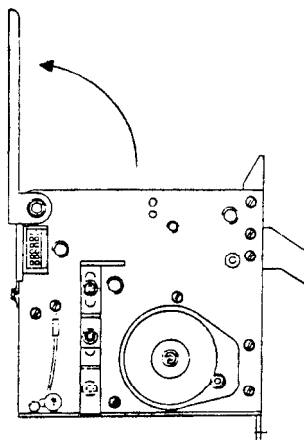
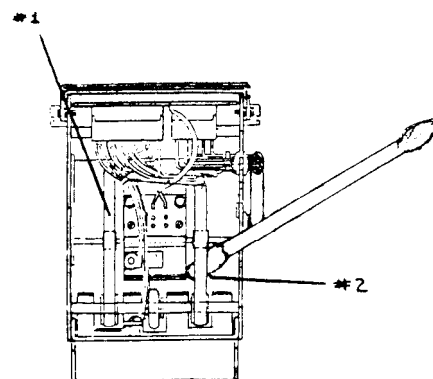

FIGURE 2
FIGURE 3
3. Open the acceptor cover as shown in Figure 2. With the acceptor motor still running, as above, apply isopropyl alcohol to the idler belts (outer side). See Figure 3, #1.
4. It is necessary to also clean the inner side of the idler belts. If the inside of the idler belts are oily, the idler belts may be driven off their rollers. In this procedure, it is necessary to place a Q-tip soaked with isopropyl alcohol underneath the idler belt (see Figure 3, #2).
Check the tension of the black timing belt. If an adjustment is required, loosen screw (A) in Figure 2; reposition the roller and tighten screw (A). The belt should be just tight enough to avoid skipping teeth.
Visually check the gear mesh so that the teeth of both gears overlap approximately 2/3, and so that there is some rotational play in their mesh. These adjustments should be checked in 4 places, 90 degrees apart, which you can mark on the large plastic gear. The adjustment is made by loosening with an open end wrench to a snug position the motor screw (A) in Figure 3, and rotating the motor so that the motor gear moves towards or away from the large plastic gear as required. Tighten screw (A) fully and recheck.